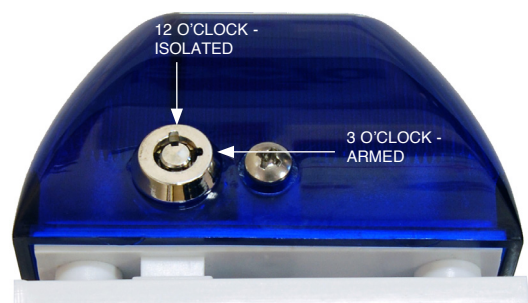

FIGURE 6
1. Using the key supplied, turn the key switch 90°, from 12 o'clock to 3 o'clock (see Figure 6), in order to set the alarm unit.